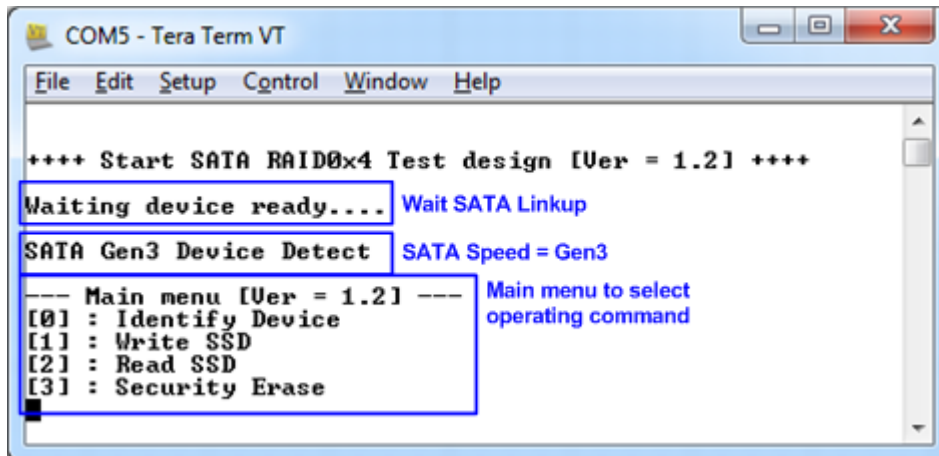

Figure 2-12 Main menu after program configuration file and RAID0 initialization complete
12) After programming completely, LED[0] and LED[1] are ON for initializing RAID0 system. LED[1] is OFF when RAID0 completes initialization process. Now system is ready to receive command from user. After that, main menu is displayed as shown in Figure 2-12.